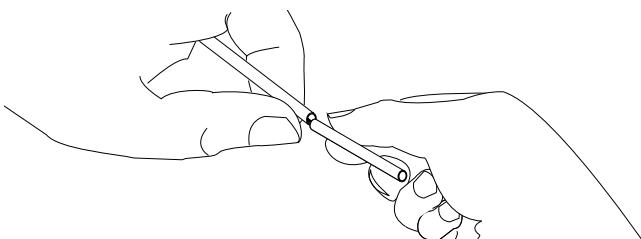

Figure 35
- Carefully flex the tube to break it at the score point. The break should be clean and free of rough edges (Figure 35). Carefully slide the severed section of buffer tube off of the fibers.